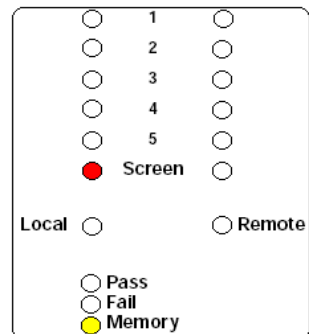

Fig 8. Ready to store cable in memory
a) A short was found, on the lower connector, where no connection existed before (Fig8.)